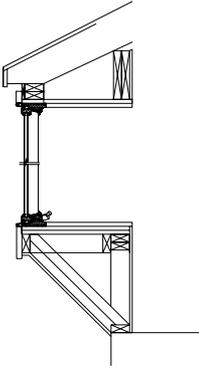

Figure 4
b. Frame brace - similar to knee brace, but walled/sided in to create area for under bow/bay storage (see figure 4). Knee braces should be attached at window mull joints.